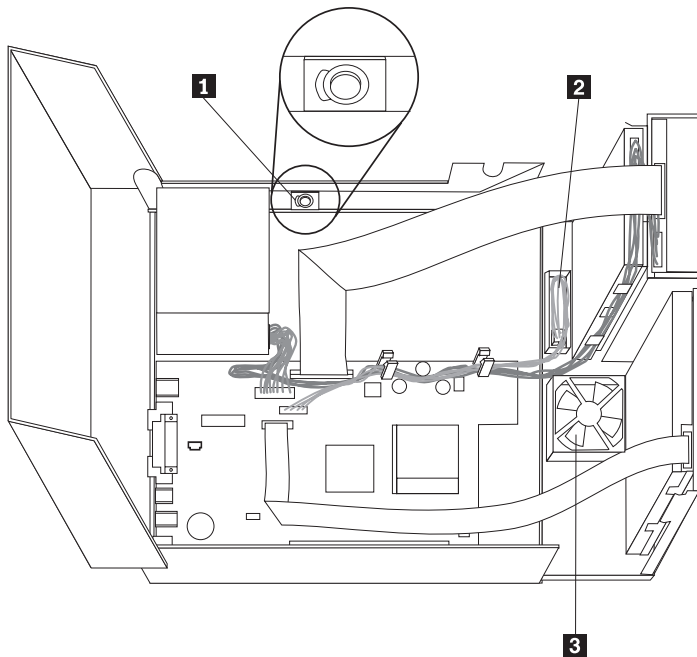

Figure 3. Speaker, fan, power button and LED assembly
4. Locate the speaker **1**. See Figure 3.
5. Lift the tab and slide the power button and LED assembly **2** out. See Figure 3 on page 43.
3. Rotate the drive bay assembly upward to gain access to the fan assembly **3**. See Figure 3 on page 43.